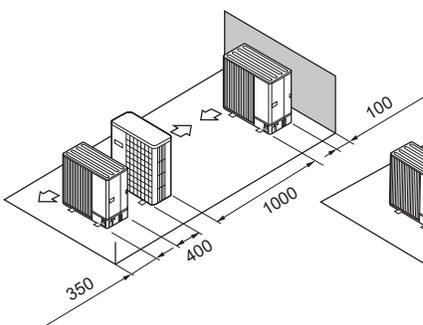

Fig. 2-19
- (5) Single parallel unit arrangement (Fig. 2-19)